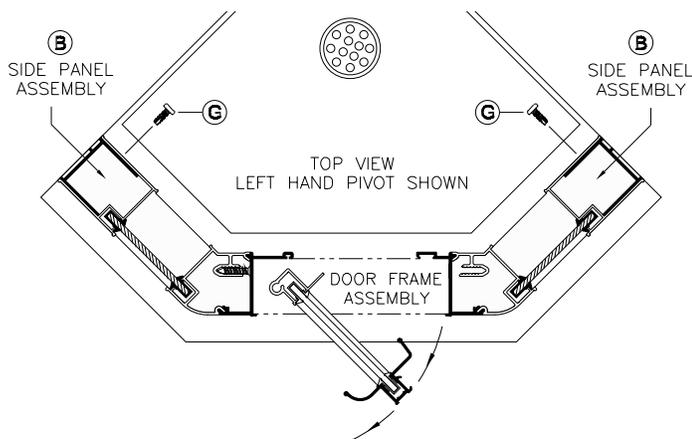

Fig. 4c
Center shower enclosure on base ledge. Using the Panel Expander Jamb adjustment holes as guides . . . fasten Side Panels (B) to Wall Jamb (A) using three (3) #6 x 3/8" self drilling panel adjustment screws (G) as shown in figure 4c.